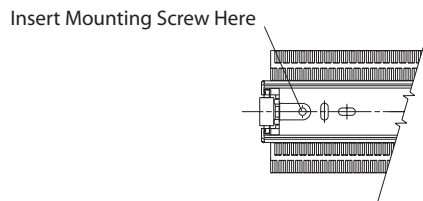

figure 4
- A mounting screw must always be used in the frontmost slide hole (fig. 4)